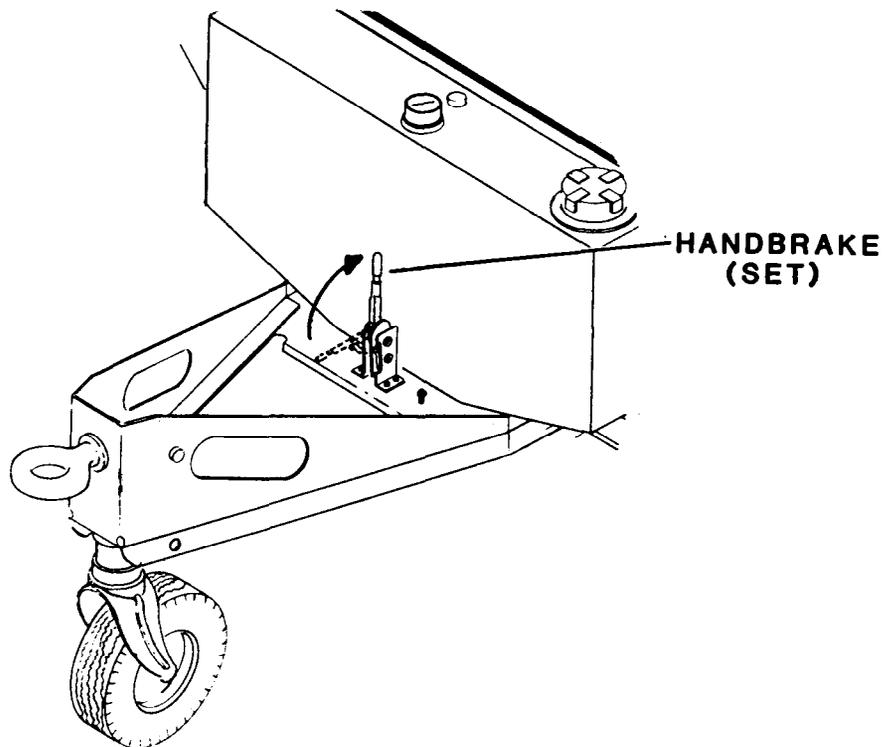

Figure 4-4. Setting the Handbrake
(1) Release handbrake (figure 4-4) and guide generator set toward pintle of tow vehicle.
(2) Open pintle.
(3) Set handbrake (figure 4-4).
(2) Set handbrake (figure 4-4).
(4) Continue installation (paragraph 4-2).